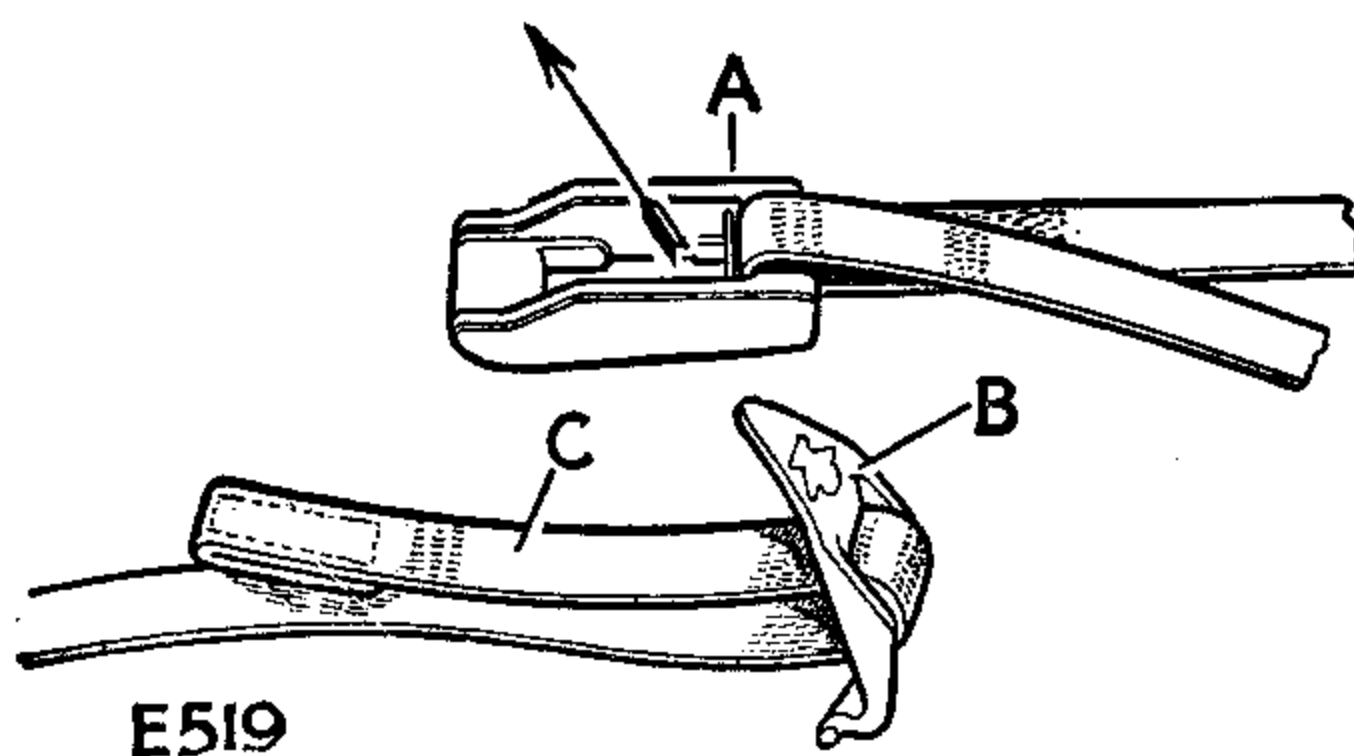

Fig. 17. Fastening the seat strap buckle first stage.
- (a) Hold the buckle 'A' in one hand with the flat side to the body. See Fig. 17.